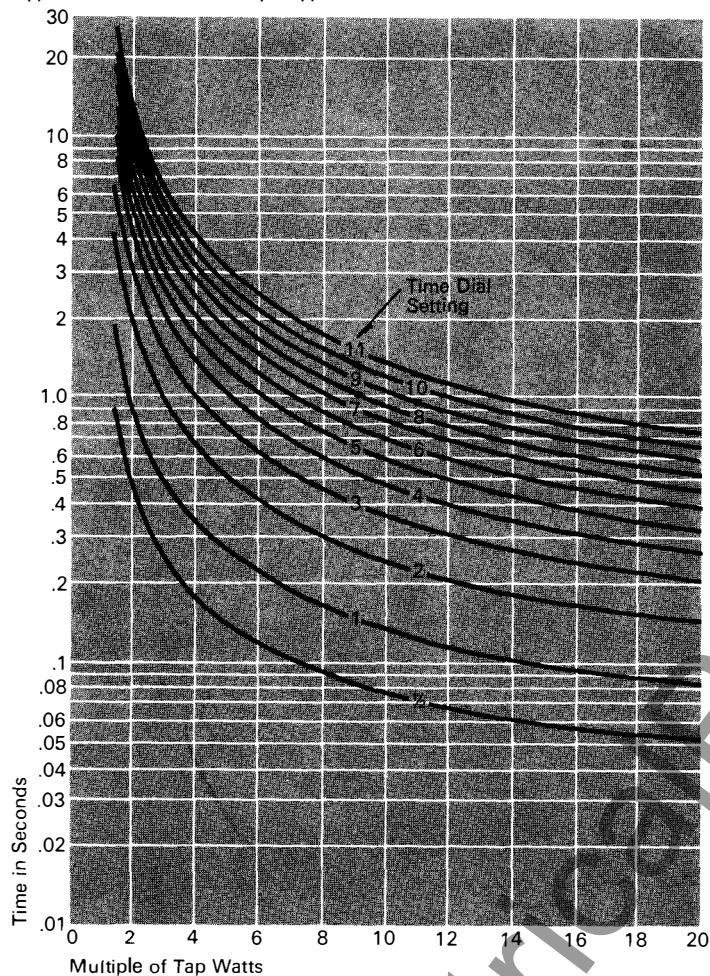

Figure 1
This relay operates on single-phase watts. The power to operate it equals the primary single-phase power divided by the current and potential transformer ratios. This relay power, expressed as multiples of the selected tap watts, locates a point on the abscissa of the time-power curves (Figures 1 and 2). The relay operating time for various time dial settings can be then observed on the ordinate.
Referring to Figure 1, a time dial setting of #2 yields an operating time of 0.43 second.
Figure 1 shows an operating time of 0.52 seconds on the #2 dial setting.
Time settings from indexed positions # $\frac{1}{2}$ to # 11 provide variable operating time values as shown on the time-power curves, Figures 1 and 2.
2. Setting of the time dial for the required time of operation as shown on the time-power curves, Figures 1 and 2.